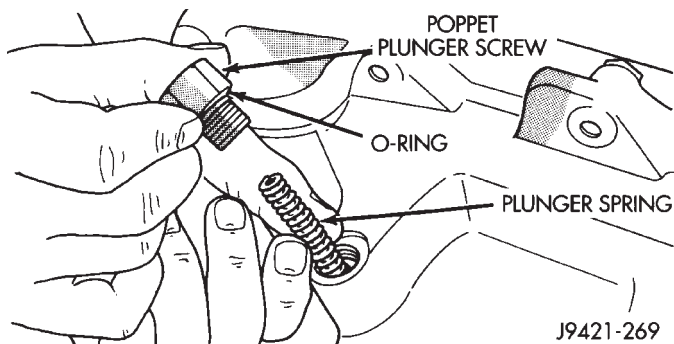

Fig. 23 Poppet Plunger Screw And Spring Removal
(3) Remove poppet plunger screw and spring (Fig. 23). Note that screw has O-ring seal. Remove and discard this seal.